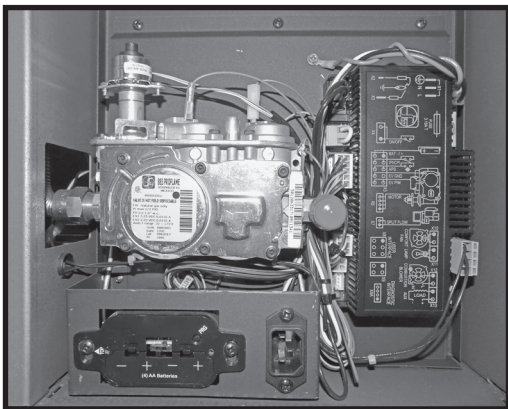

Figure 14: Valve & IFC module location.
1. Remove switch cover and back panel and locate the valve as seen in (Figure 14).
2. Proflame Integrated Fireplace Control (IFC Module) board and a wiring harness to connect the IFC to the gas valve and stepper motor (Figure 14).